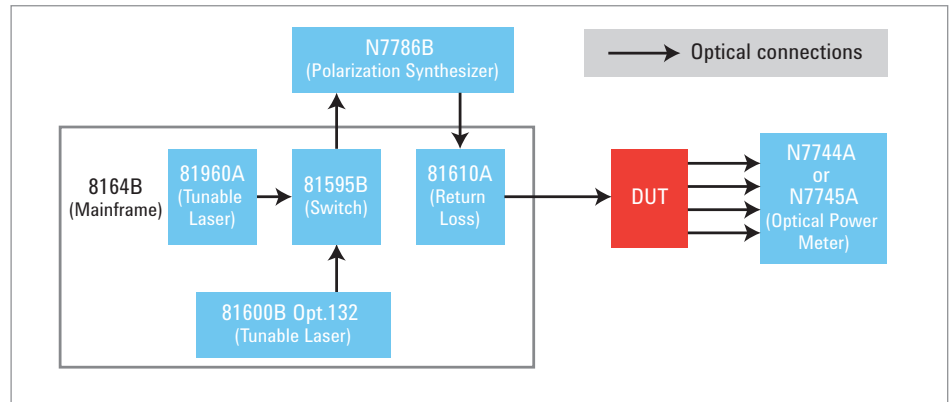
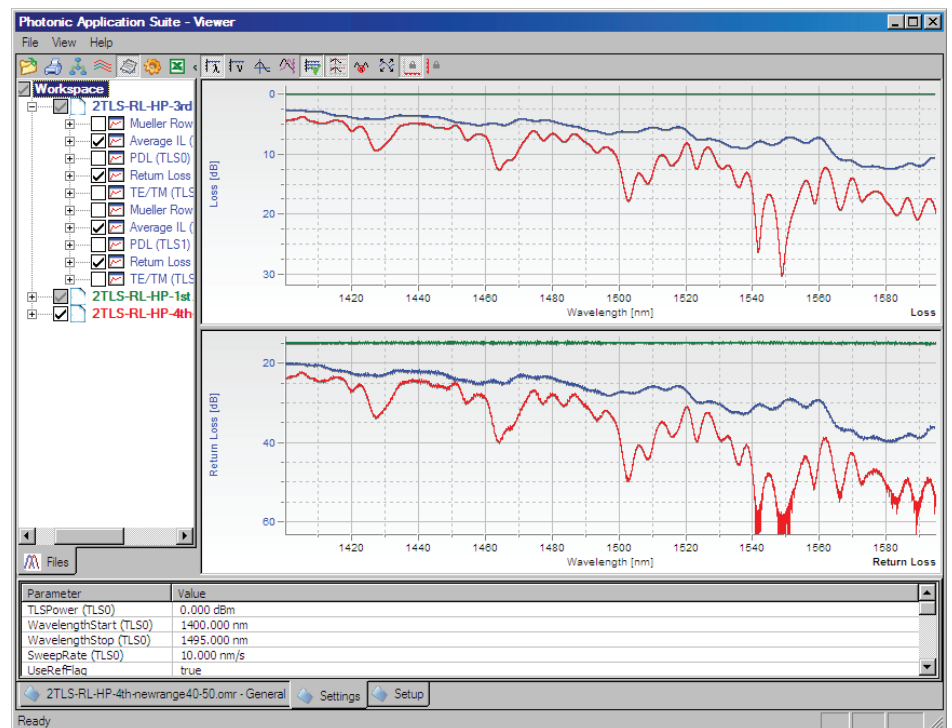

Figure 6. Example IL/PDL configuration using 2 switched lasers and the return loss module.
Figure 7. Sample measurements using two lasers to measure from 1400 to 1600 nm, including return loss.
- The wavelength range can be extended by using 2 or 3 tunable lasers, which can be chosen for the desired wavelength range. For example a configuration like in Figure 6 can be used for tests in the O-band, C-band and L-band. The 81600B with option 132 or 130 tunes from 1260 to 1375 nm and the 81960A tunes from 1505 to 1630 nm. Wider ranges and higher spectral dynamics can be obtained by combining 2 or 3 81600B low-SSE lasers, even over the full 1260 to 1640 nm single-mode fiber wavelength range. The measurement runs automatically, like with a single laser, using the 81595B switch. Results are shown as a single graph, possibly with a gap or overlap between the measured wavelength ranges.
- Polarization-averaged return loss can be measured by including the 81610A (or other model) return loss module, as shown in Figure 6. An example including two tunable lasers is shown in Figure 7, where the insertion loss was progressively increased to increase the return loss from an open FC/PC connector. Here the RL range extends beyond 55 dB. In the diagram, the two laser wavelength ranges meet at 1495 nm. The 3 colored traces represent measurements with different insertion loss, adjusted by wrapping the fiber.